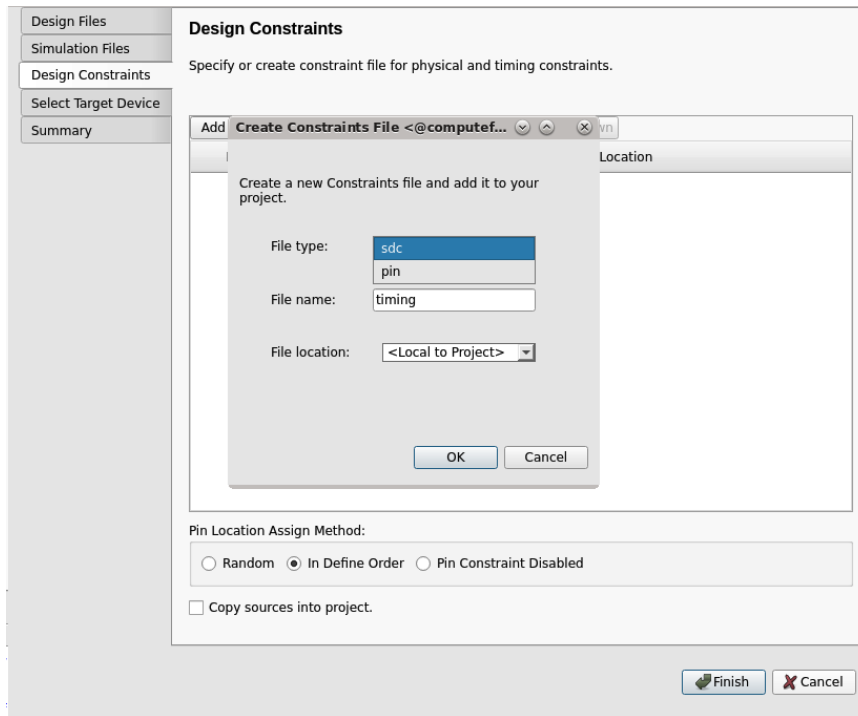

Figure 15: Timing Constraint File
- **Timing Constraints (\*.sdc):** This file specifies critical timing requirements for user design. To create (\*.sdc) file, select sdc as a File type and specify File name of the timing constraint file as shown in Figure 15.